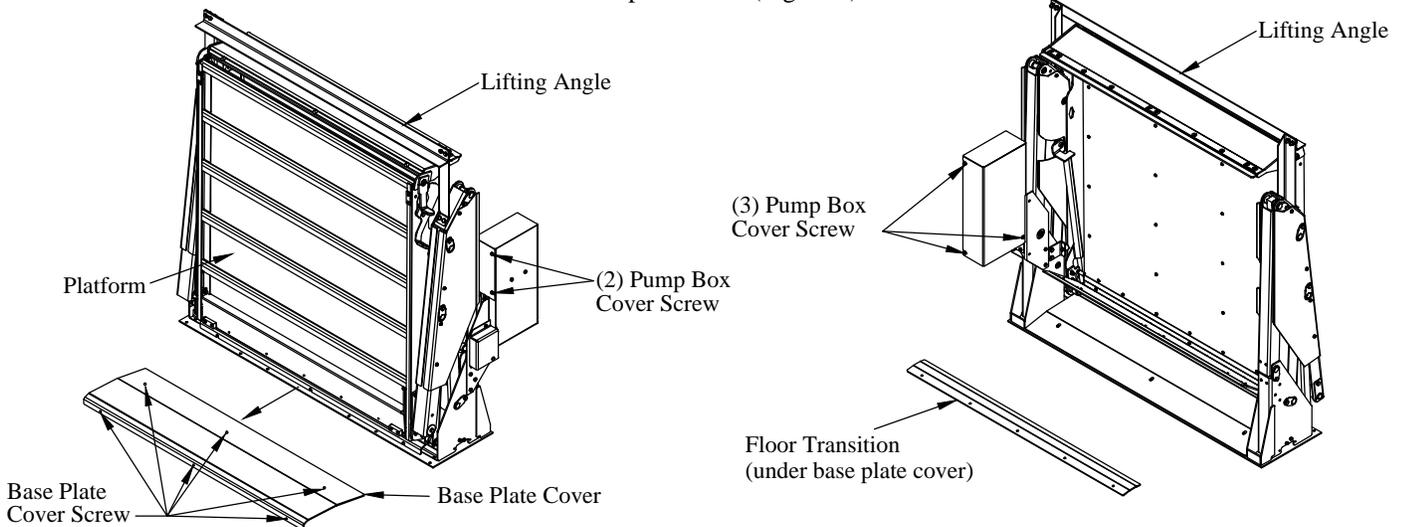

Figure 3: Base plate cover and pump box.
3. **Remove** the pump box cover by removing five (5) screws (Figure 3).
5. **Replace** the pump box cover and screws (Figure 3).
6. **Remove** and **Save** the six (6) screws fastening the base plate cover to the base plate (Figure 3).
7. **Remove** and **Save** base plate cover (Figure 3).
8. **Remove** and **Save** the floor transition that is under the base plate cover (Figure 3).
10. Lift the liftgate by the lifting angle with a fork truck or hoist (Figure 3).